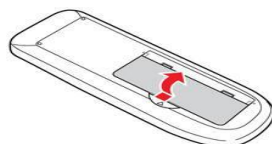

Fig. 3.2 Opening the cover of remote
Step 1 – Open the battery cover as illustrated in Figure 3.2.